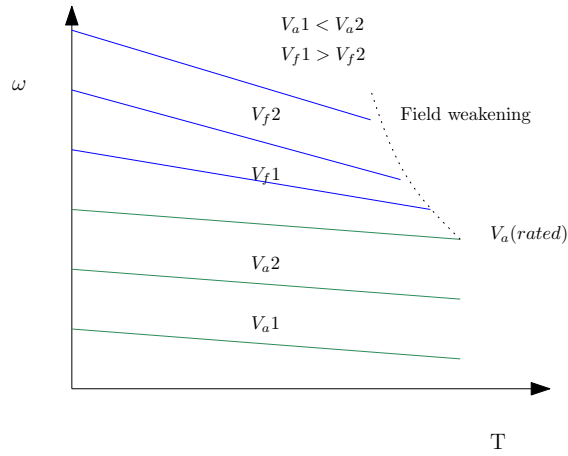

Figure 3: Combined armature voltage and field control
Armature voltage control is applied below base speed, with field flux kept constant at its rated value. From (1), when armature voltage is increased, speed will be increased. Above rated voltage, further increase is not possible to get higher speeds. Then field flux control is used to get speeds above base speed as shown in figure 3. With armature voltage kept constant at its rated voltage, if field flux is reduced, from (1), it is understood that speed will be getting increased. But unlike armature voltage control, T- ω curves will not be parallel to each other as flux is not linearly related to speed as in (1).